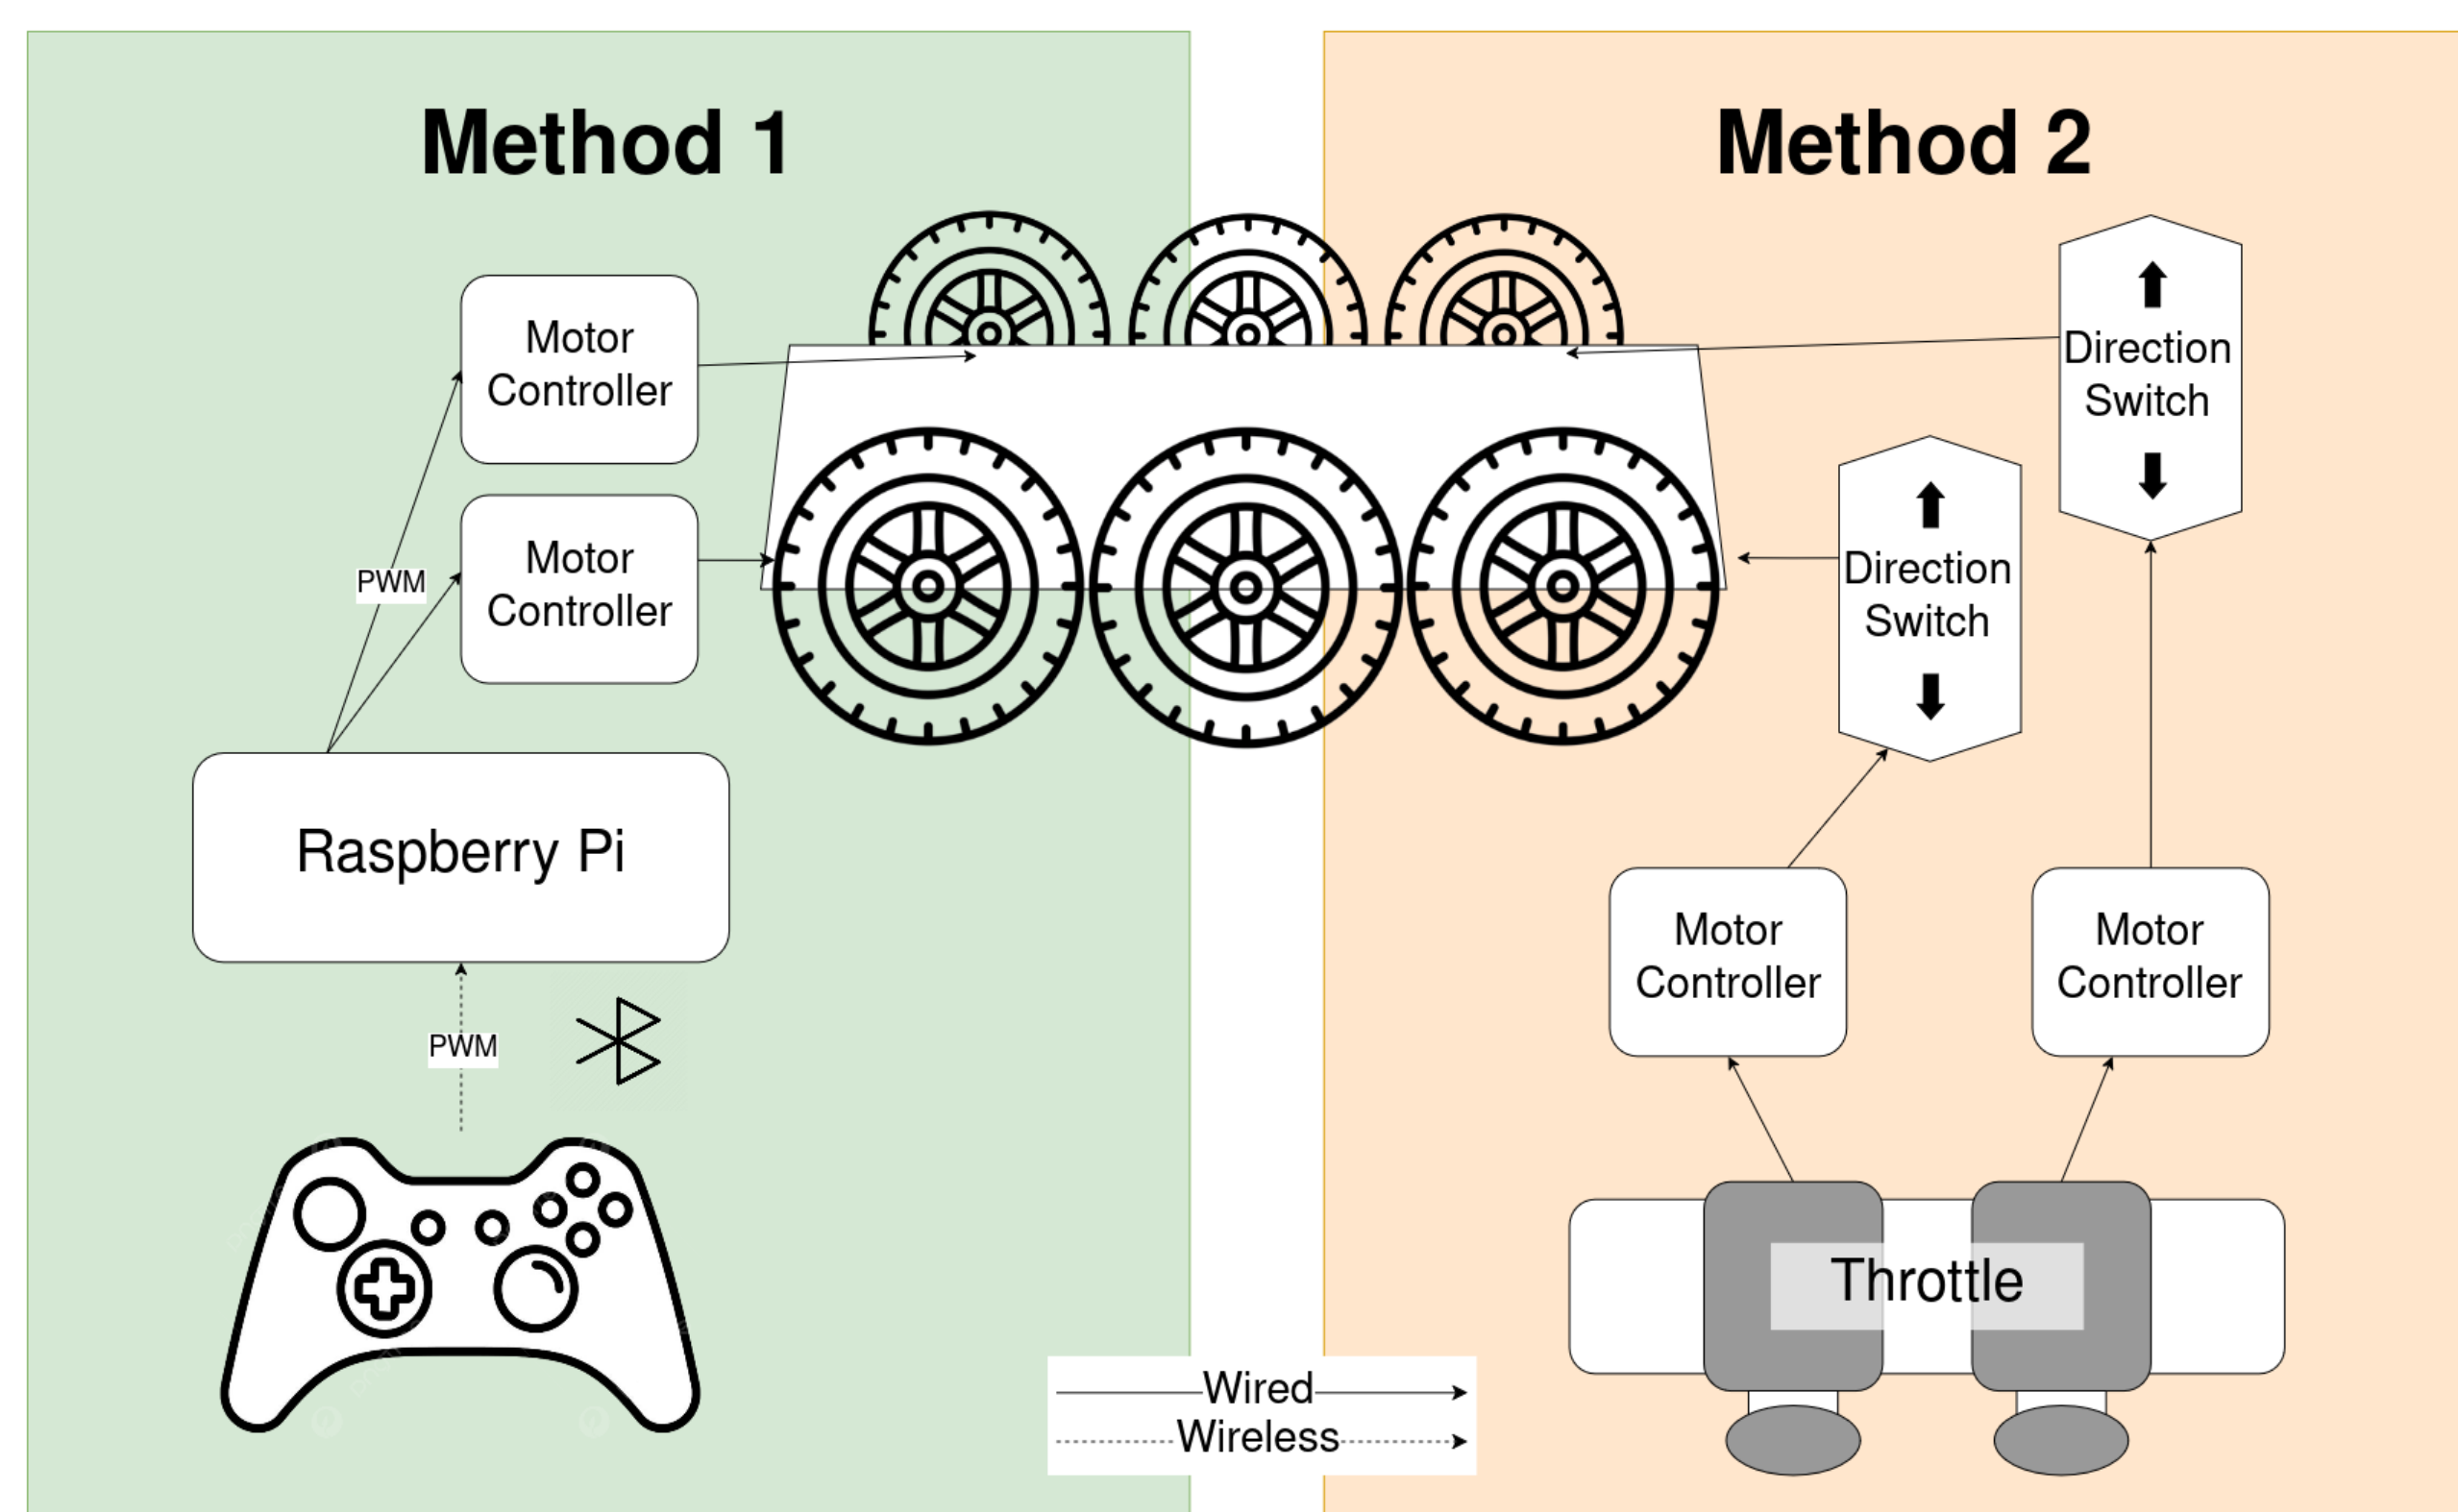

Figure 1: Robot control diagram—wireless setup (left) and wired setup (right).
- Two control methods—one wired, one wireless—for redundancy (Fig. 1,4).